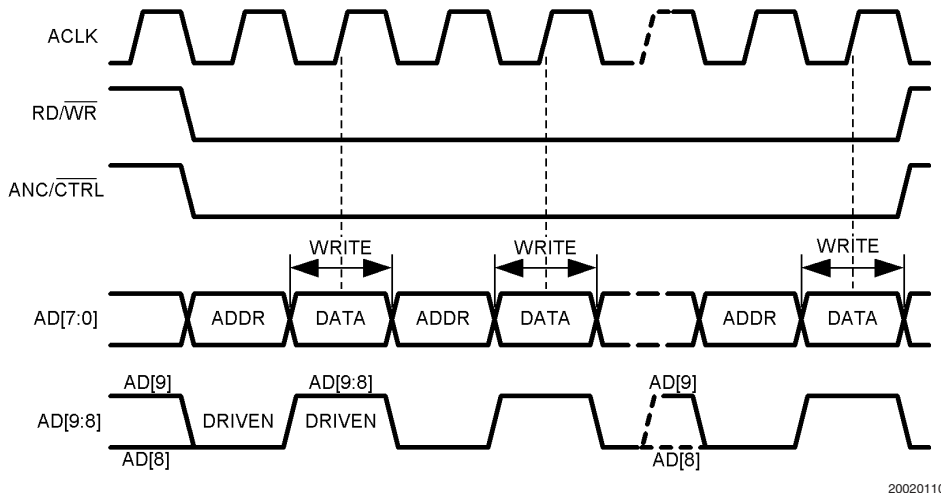

FIGURE 3. Control Data Write Timing
*Figure 3* shows the sequence of clock and control signals for writing control data to the ancillary/control data port. The **control data write mode** is similar to the read mode. **Control data write mode** is invoked by making the **ANC/CTRL** input low and the **RD/WR** input low. The 8-bit address of the control register set to be accessed is input to the port on bits **AD[7:0]**. When a control register write address is being written to the port, **AD[9:8]** must be driven as 00b (0XXh, where XX are AD[7:0]). The address is captured on the rising edge of **ACLK**. The address data is removed on the falling edge of **ACLK**. Next, the control data is presented to the port bits **AD[7:0]** and written into the selected register on the next rising edge of **ACLK**. When control data is being written to the port, **AD[9:8]** must be driven as 11b (3XXh, where XX are AD[7:0]). Control data written into the registers may be read out non-destructively in most cases.